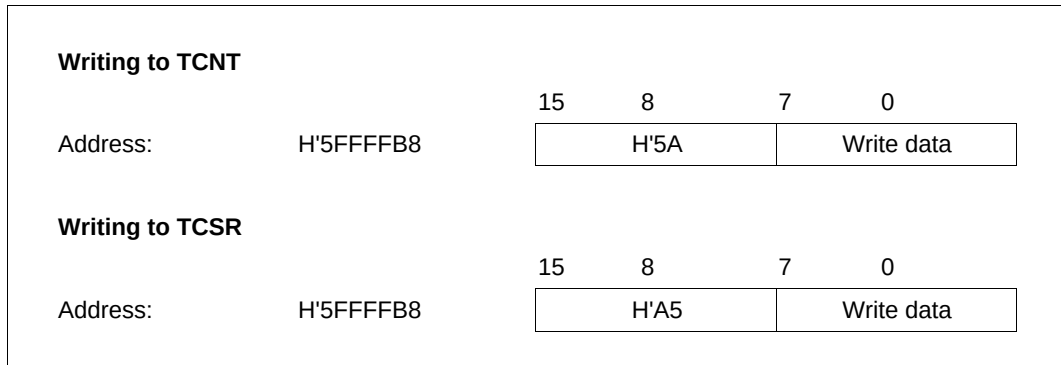

**Figure 12.2 Writing to TCNT and TCSR**
**Writing to TCNT and TCSR:** These registers must be written by a word transfer instruction. They cannot be written by byte transfer instructions. TCNT and TCSR both have the same write address. The write data must be contained in the lower byte of the written word. The upper byte must be H'5A (for TCNT) or H'A5 (for TCSR) (figure 12.2). This transfers the write data from the lower byte to TCNT or TCSR.